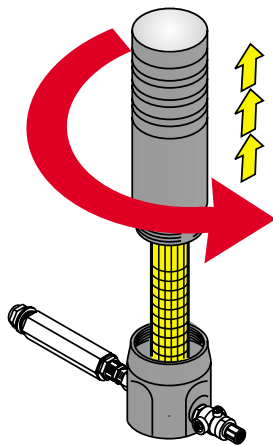

Fig.43
7) Remove the upper filter casing (fig. 43) and proceed with internal cleaning of the filter unit using a solvent.